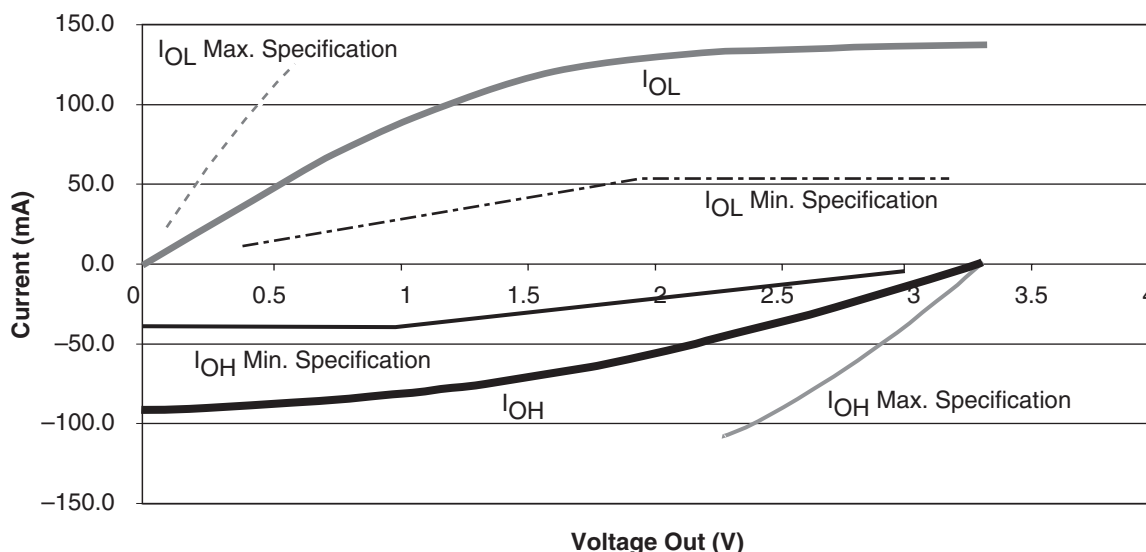

Figure 2-9 • 3.3V PCI V/I Curve for the RTSX-S Family
1. Refer to the *VII* curves in Figure 2-9 on page 2-19. Switching current characteristics for REQ# and GNT# are permitted to be one half of that specified here; i.e., half-size output drivers may be used on these signals. This specification does not apply to CLK and RST#, which are system outputs. The "Switching Current High" specification is not relevant to SERR#, INTA#, INTB#, INTC#, and INTD#, which are open drain outputs.
2. Maximum current requirements must be met as drivers pull beyond the last step voltage. Equations defining these maximums (C and D) are provided with the respective curves in Figure 2-9 on page 2-19. The equation defined maximum should be met by the design. In order to facilitate component testing, a maximum current test point is defined for each side of the output driver.